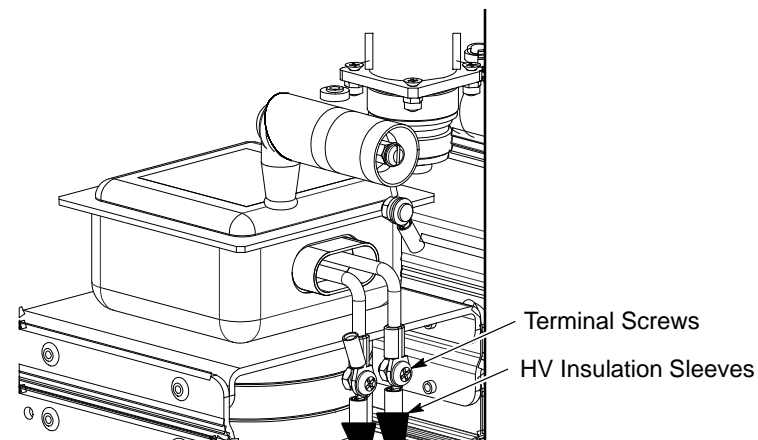

Figure 6-18 Magnetron Removal
2. See Figure 6-18. Cut the four ties securing the black high voltage (HV) insulation sleeves to the HV cables. Slide the sleeves down to expose the two ring-tongue terminal connections.
2. See Figure 6-18. Cut the four ties securing the black HV insulation sleeves to the HV cables. Slide the sleeves down to expose the two ring-tongue terminal connections.
13. See Figure 6-18. Use the screws removed in step 3 to connect the X2 secondary cable to the magnetron **F** terminal pigtail. Connect the X1 secondary cable and the 20 AWG HV cable with ferrite to the **FA** terminal pigtail.